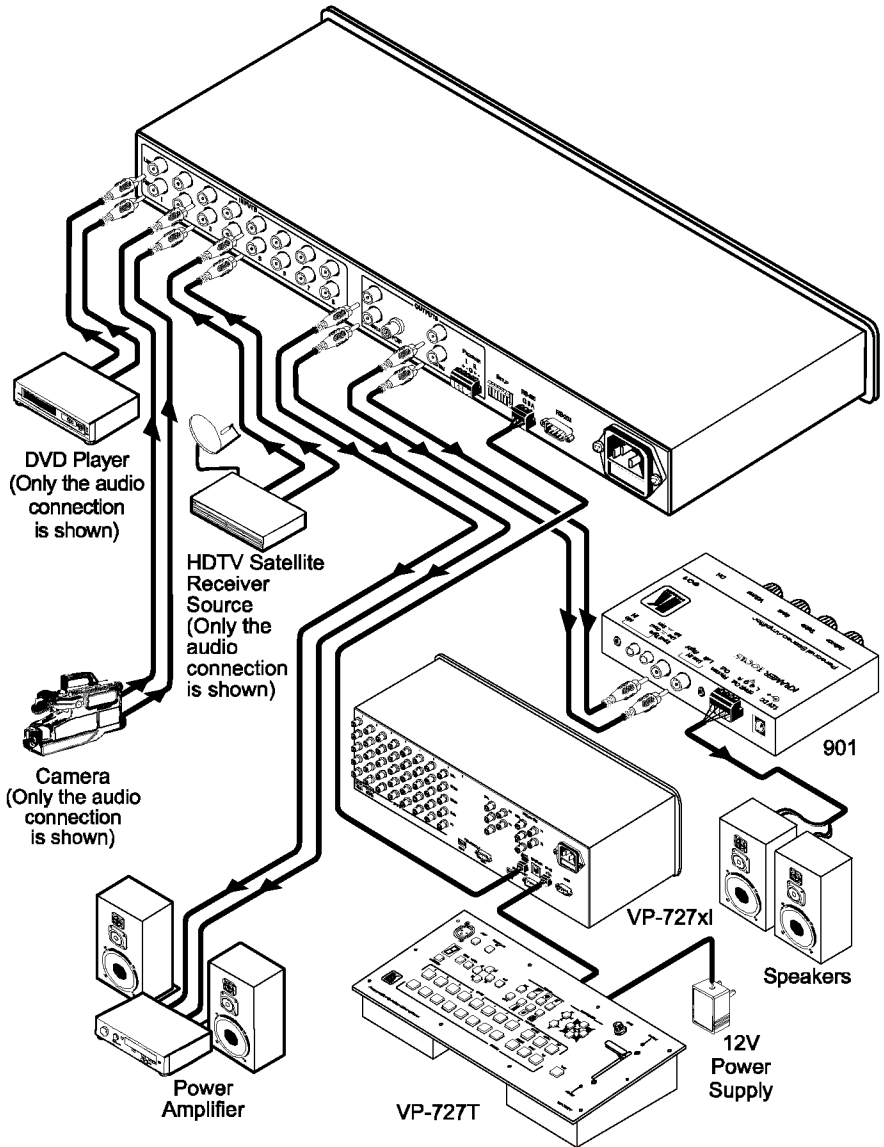

Figure 3: Connecting the VP-727A with a VP-727xl Machine
To connect¹ the **VP-727A** as illustrated in the example in Figure 3, do the following²:
6. Connect the power cord⁷ (not shown in Figure 3).
4 You can also connect the S/PDIF digital audio RCA connector and the balanced stereo audio terminal block connector to the appropriate audio acceptors (not illustrated in Figure 3)